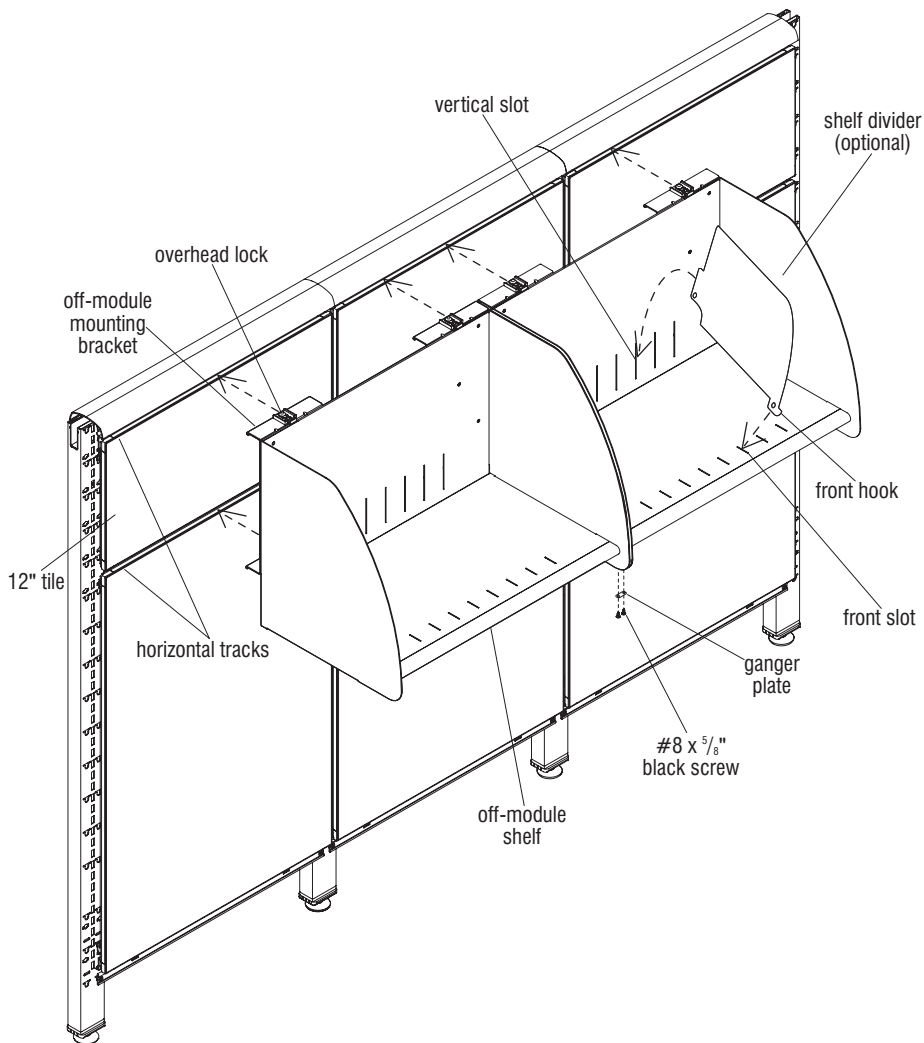

Figure 4
4. Off-module shelves can only be hung with the top aligned to a 12" tile. To make hanging the overhead easier, remove the top cap or tile directly above the overhead. With the overhead locks pulled out (toward the front of the shelf), hang the top and bottom of the mounting bracket into the tracks of the panel's horizontal rail. Make sure the shelf is hanging on the horizontal rail and not on the tile. After the shelf is hung in the track, move it to the desired position by gently lifting up while sliding it. Secure the shelf on the tracks by pressing the overhead locks into the track (Figure 4).
5. When two or more shelves are installed next to each other, secure them together with a ganger plate. Fasten a ganger plate to the shelf bottoms with two #8 x 5/8" black screws (Figure 4).
6. To install shelf dividers (optional), first place the front hook of the divider into the front slot of the shelf. Then rotate the rear of the divider down until the the tab snaps into the vertical slot in the shelf back (Figure 4). To remove the divider, press lightly on the shelf back to release the rear tab and rotate it out.